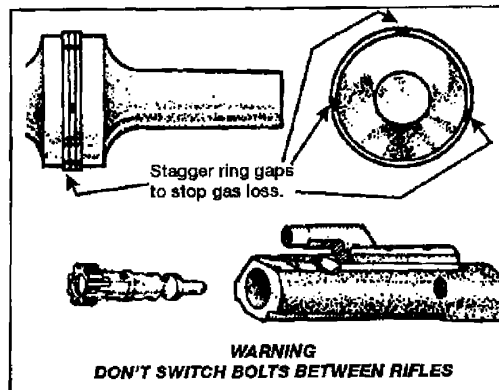

Figure 071-311-2025-27. Placing the bolt in the carrier
e. Place the bolt cam pin by putting it in the bolt carrier, turning it one-quarter turn (figure 071-311-2025-28).